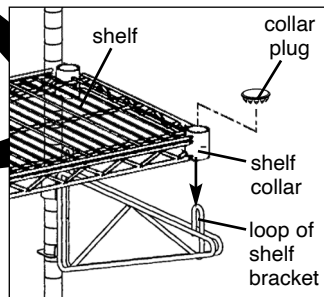

figure 6
- Lay each shelf* on top of wall brackets, and cover shelf collar openings with collar plugs (see figure 6).